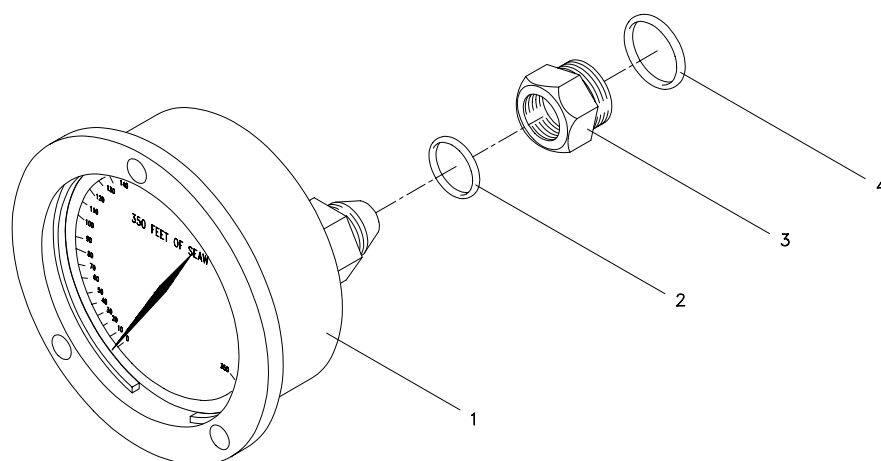

Figure 6-27. Diver Depth Gauges (ALP-G318, ALP-G319, ALP-G320)
6.8.5.11 Diver Depth Gauges (ALP-G318, ALP-G319, ALP-G320). The diver depth gauges are the only three depth gauges used in the LWDS MK 3 Mod 0. ALP-G318 is located on the panel for the red diver, ALP-G319 on the panel for the green diver, and ALP-G320 on the panel for the yellow diver. The back of each gauge contains a blow-out plug, which serves as a safety device in the event of overpressurization. Corrective maintenance for the diver depth gauges is limited to removal and replacement in accordance with the following procedure. Refer to Figure 6-27 for parts location and to Figure 7-17 for an index of replacement parts.